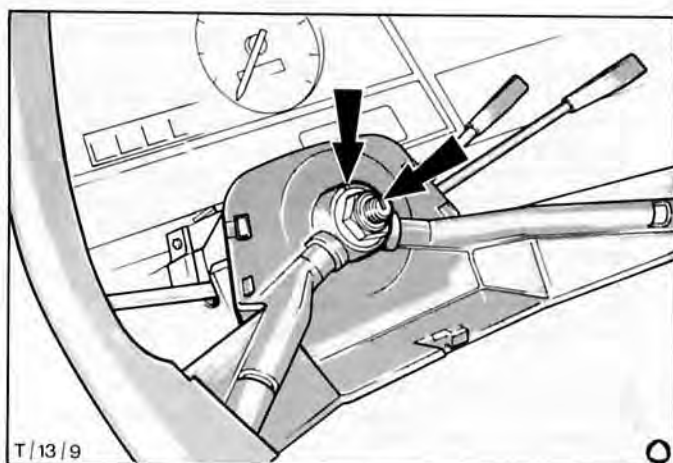

Fig.17. Align steering wheel to steering shaft.
29. Refit and centralise steering wheel, refer to operation 13 523. Tighten retaining nut to 28 to 34 Nm (2,8 to 3,4 kgf.m 20 to 25 lbf.ft), Fig.17.